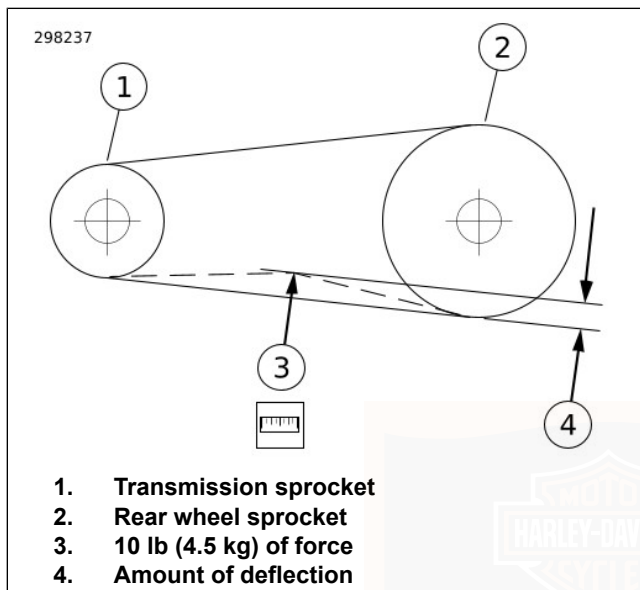

Figure 76. Checking Belt Deflection
- b. **All other models:** See Figure 76. Measure amount of deflection (4) while holding gauge steady.